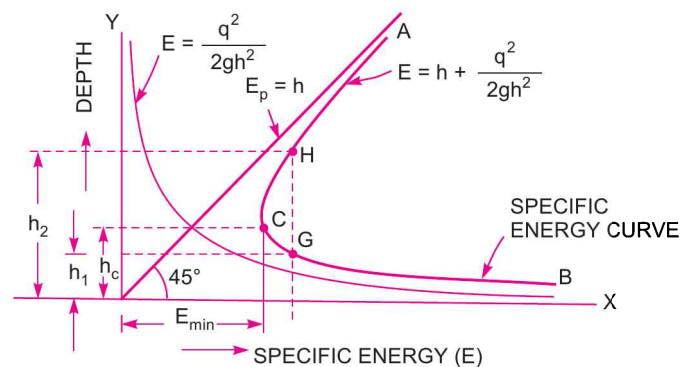

Fig. 16.26 Specific energy curve.
The specific energy curve may also be obtained by first drawing a curve for potential energy (i.e.,  $E_p = h$ ), which will be a straight line passing through the origin, making an angle of  $45^\circ$  with the  $X$  - axis as shown in Fig. 16.26. Then drawing another curve for kinetic energy  $\left( \text{i.e., } E_k = \frac{q^2}{2gh^2} \text{ or } E_k = \frac{K}{h^2}, \right.$
where  $K = \frac{q^2}{2g} = \text{constant} \left. \right)$  which will be a parabola as shown in Fig. 16.26. By combining these two curves, we can obtain the specific energy curve. In Fig. 16.26, curve  $ACB$  denotes the specific energy curve.
**16.7.1 Critical Depth ( $h_c$ ).** Critical depth is defined as that depth of flow of water at which the specific energy is minimum. This is denoted by ' $h_c$ '. In Fig. 16.26, curve  $ACB$  is a specific energy curve and point  $C$  corresponds to the minimum specific energy. The depth of flow of water at  $C$  is known as critical depth. The mathematical expression for critical depth is obtained by differentiating the specific energy equation (16.22) with respect to depth of flow and equating the same to zero.
**16.7.7 Alternate Depths.** In the specific energy curve shown in Fig. 16.26, the point C corresponds to the minimum specific energy and the depth of flow at C is called critical depth. For any other value of the specific energy, there are two depths, one greater than the critical depth and other smaller than the critical depth. These two depths for a given specific energy are called the alternate depths. These depths are shown as  $h_1$  and  $h_2$  in Fig. 16.26. Or the depths corresponding to points G and H in Fig. 16.26 are called alternate depths.